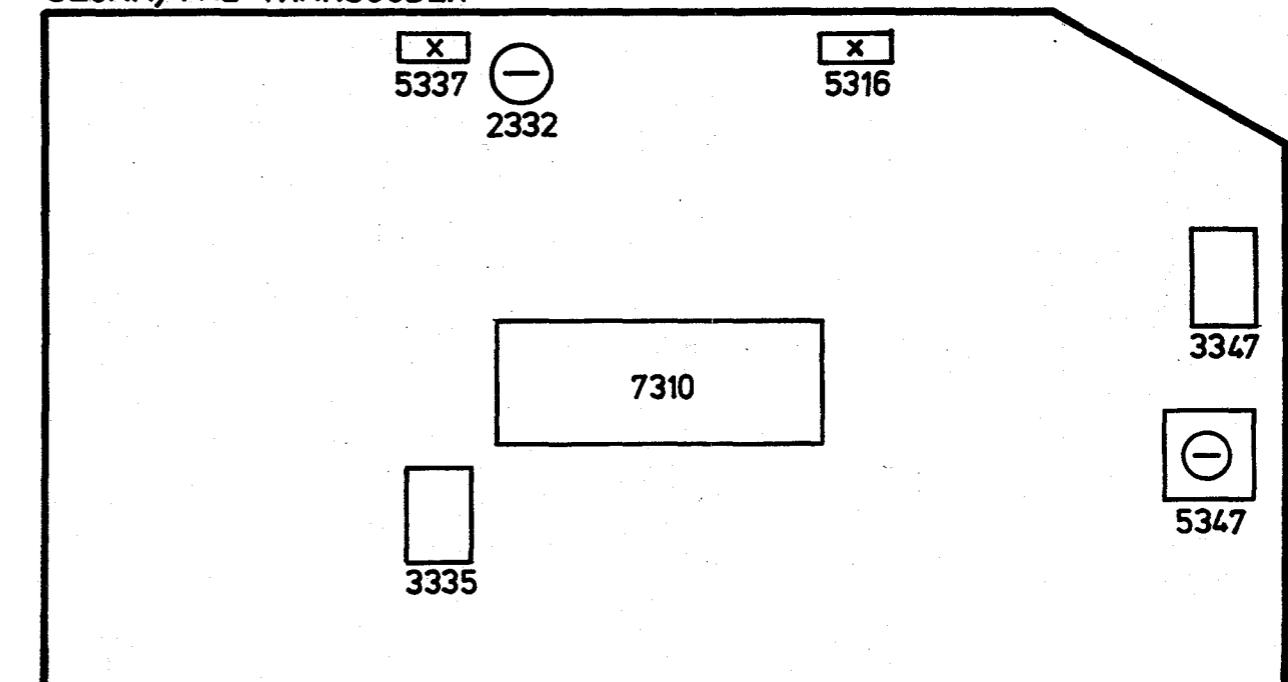

Fig.7
D. ADJUSTMENTS SECAM/PAL TRANSCODER (Fig. 7)